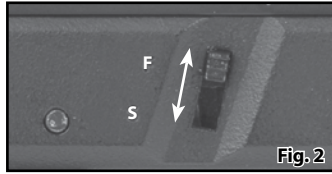

Fig. 2
- Push the safety lever down into the "S" position (Fig. 2) for "ON SAFE".